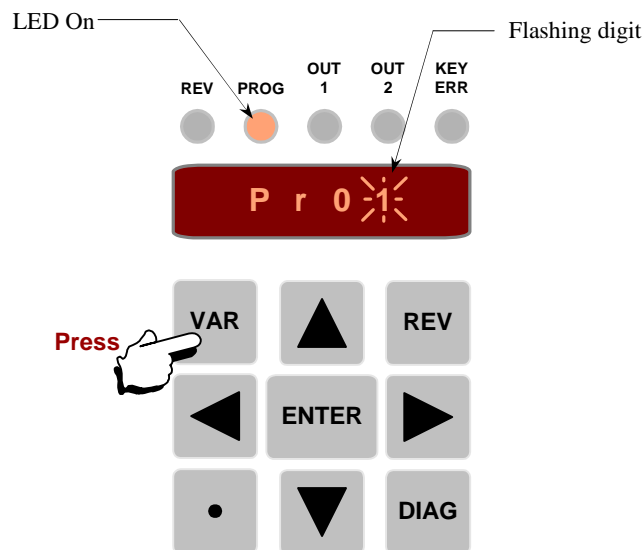

Figure 11: TR400 Placed in Program Mode Displaying Variable 01
1.	Press the VAR key; the PROG LED will light, and the display will show Pr (Program Mode) and a variable with the 1's digit position flashing. See Figure 11 for a pictorial of this step.